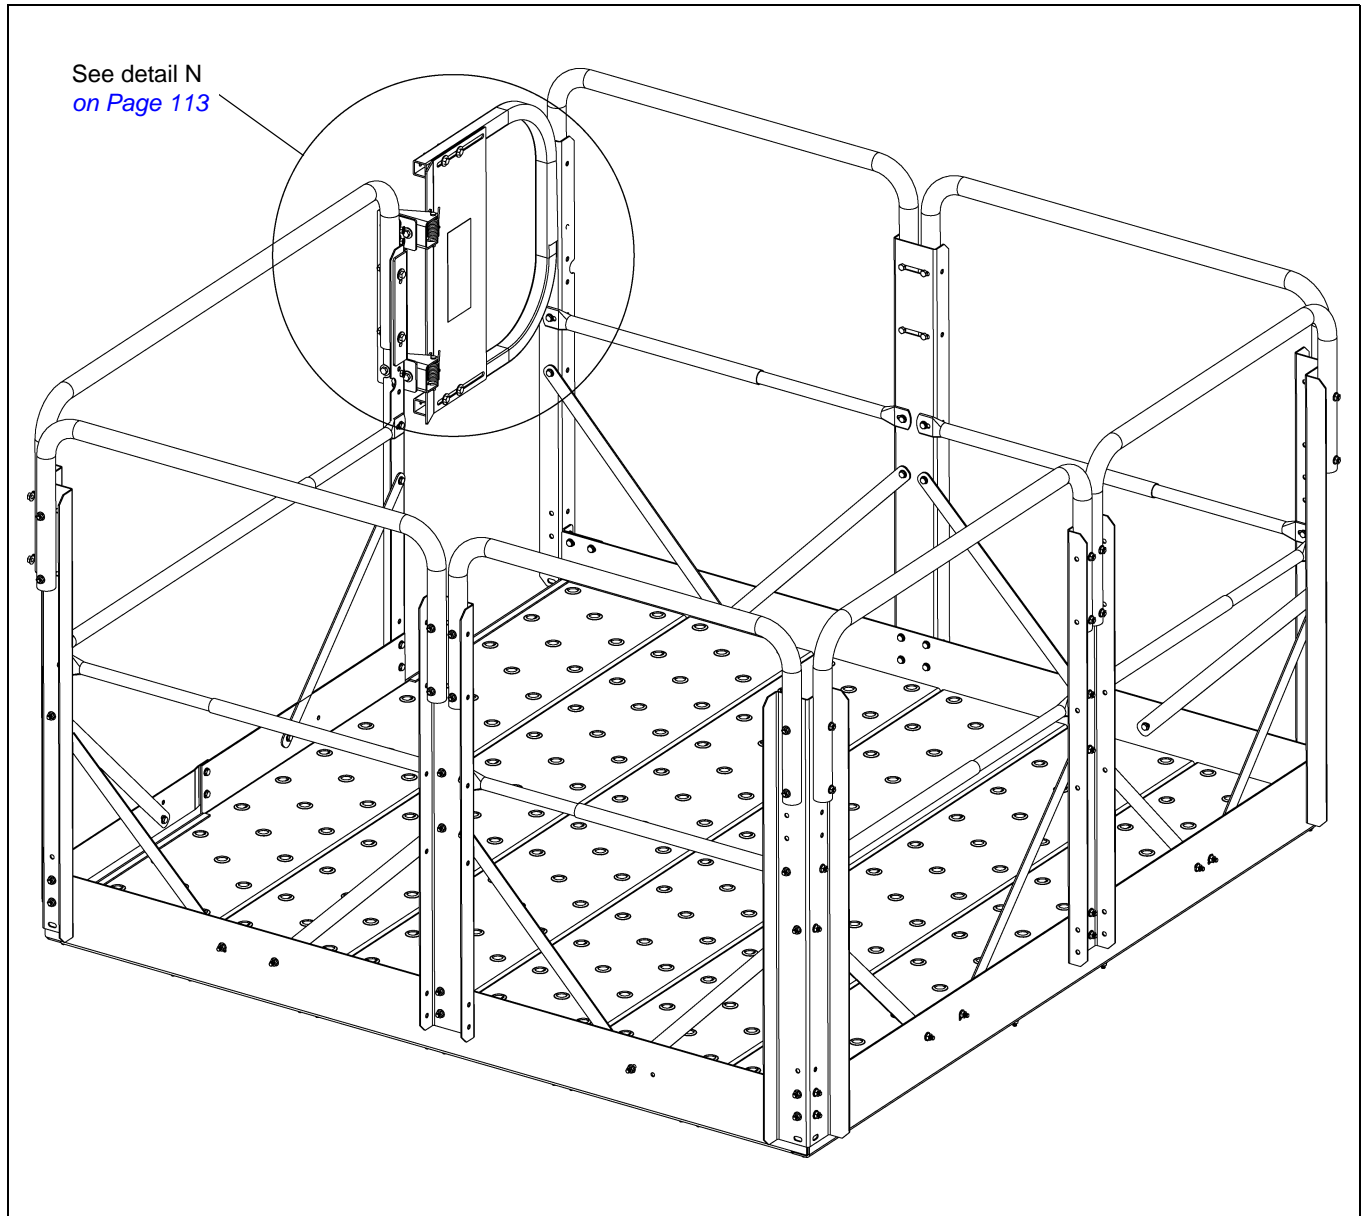
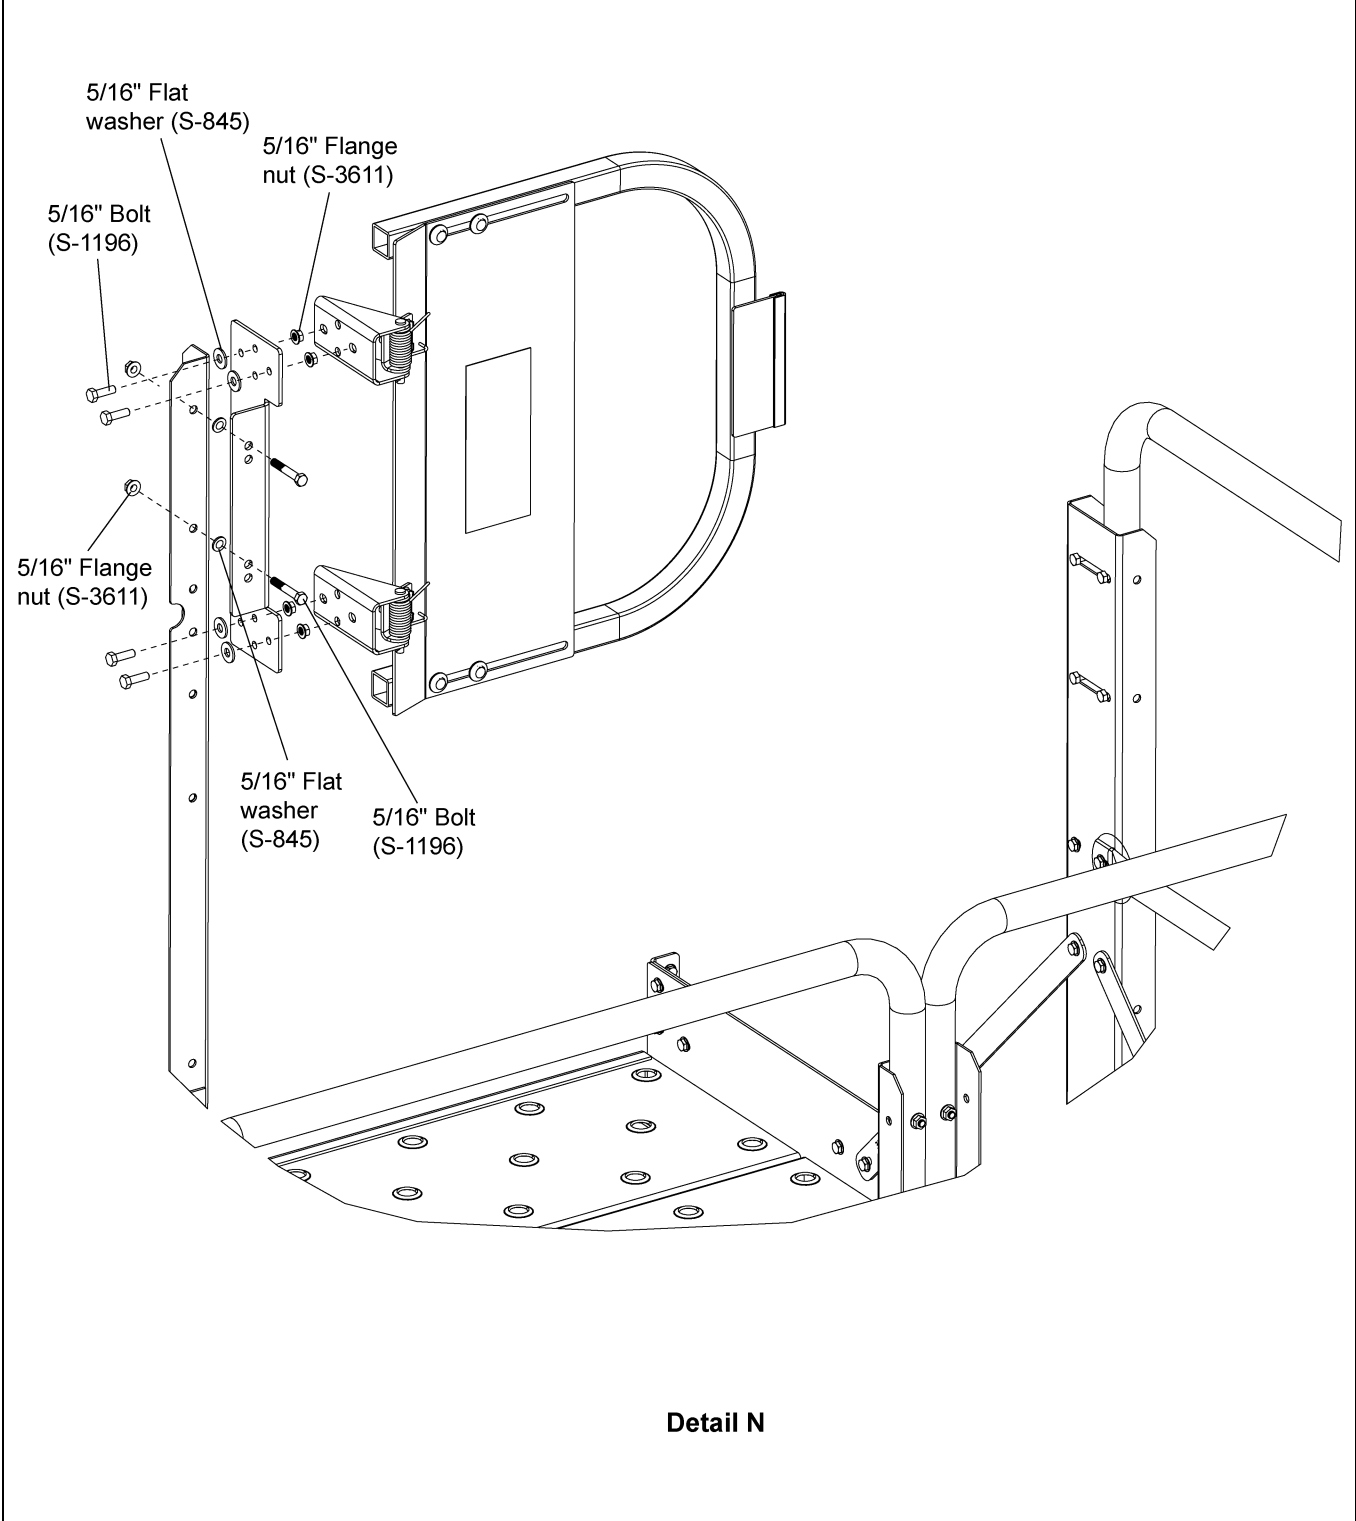

Figure 13P
Figure 13Q
Attach intermediate platform door bracket to two (2) safety gate side posts (HP1648HP) using 5/16" bolt (S-1196), 5/16" flat washer (S-845) and 5/16" flange nut (S-3611). (See Figure 13P below and Figure 13Q on Page 113.)